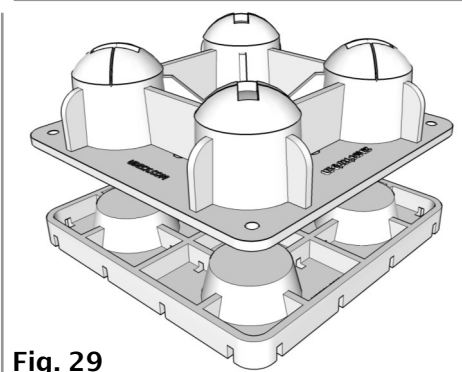
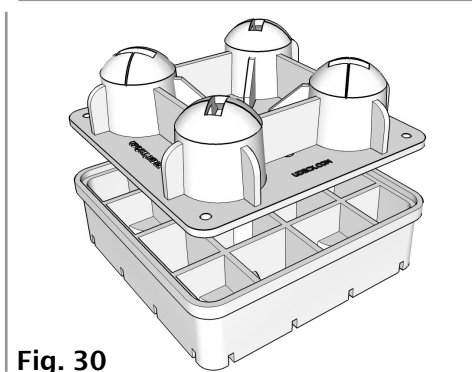

Fig. 29
Fig. 30
**13.** If you choose to install on a sloped or uneven grade, 1" Shims (G) (Fig. 29) or 3" Risers (H) (Fig. 30) can be used to elevate portions of your Patio Deck to help level the finished surface. Simply place a shim below the Pier (A), level and begin